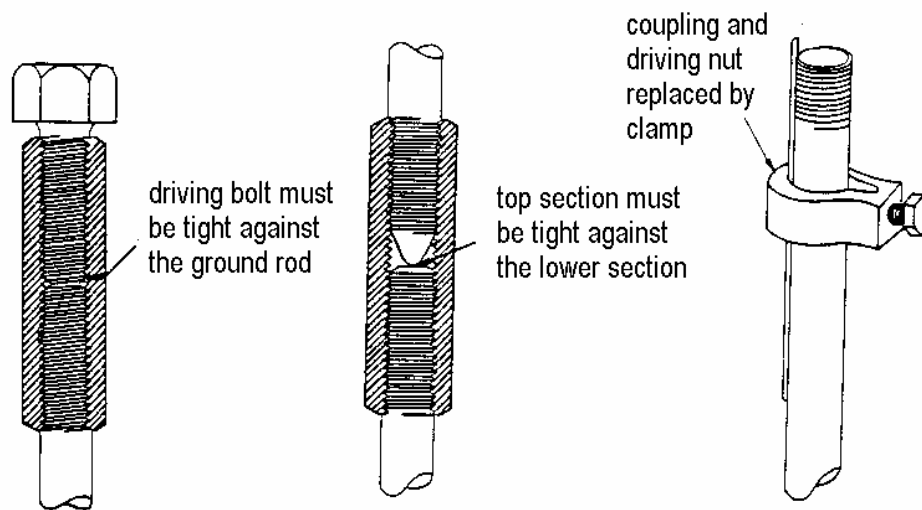

Figure 10 - Ground rod components and assembly
c. Drive the rod through to the moist subsoil. The ground rod should be installed straight if possible, but can be installed up to an angle of 45 degrees. Allow about 3 inches of the rod to protrude above the bottom of the hole. When installing a multiple section ground rod, ensure that top section is tight against the lower rod to prevent damage to the coupling sleeve threads. Similarly, the driving bolt should be tight against the lower rod (see figure 10). Be careful not to hit the threaded end of the rod section with the hammer, or damage the threads in any other way. A slide hammer (NSN 5120-01-013-1676) can make the task of installing and pulling out a multiple section ground rod easier and safer.